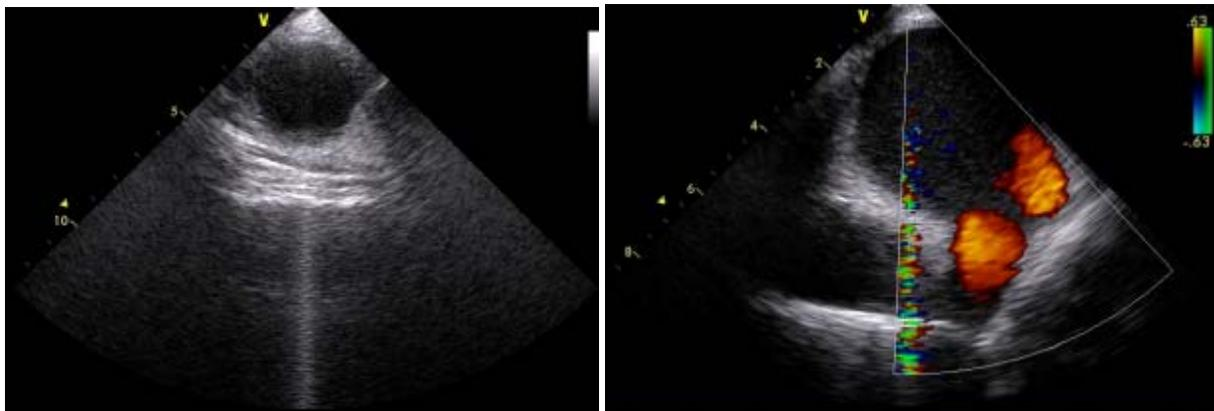

Fig. 3-4
**Note:** Strong environmental electric noise, produced by other nearby equipment, may sometimes be picked up by the system when using the AcuNav catheter. The environmental noise may cause interferences that may appear in the center area of the sector as shown below (Fig. 3-4).